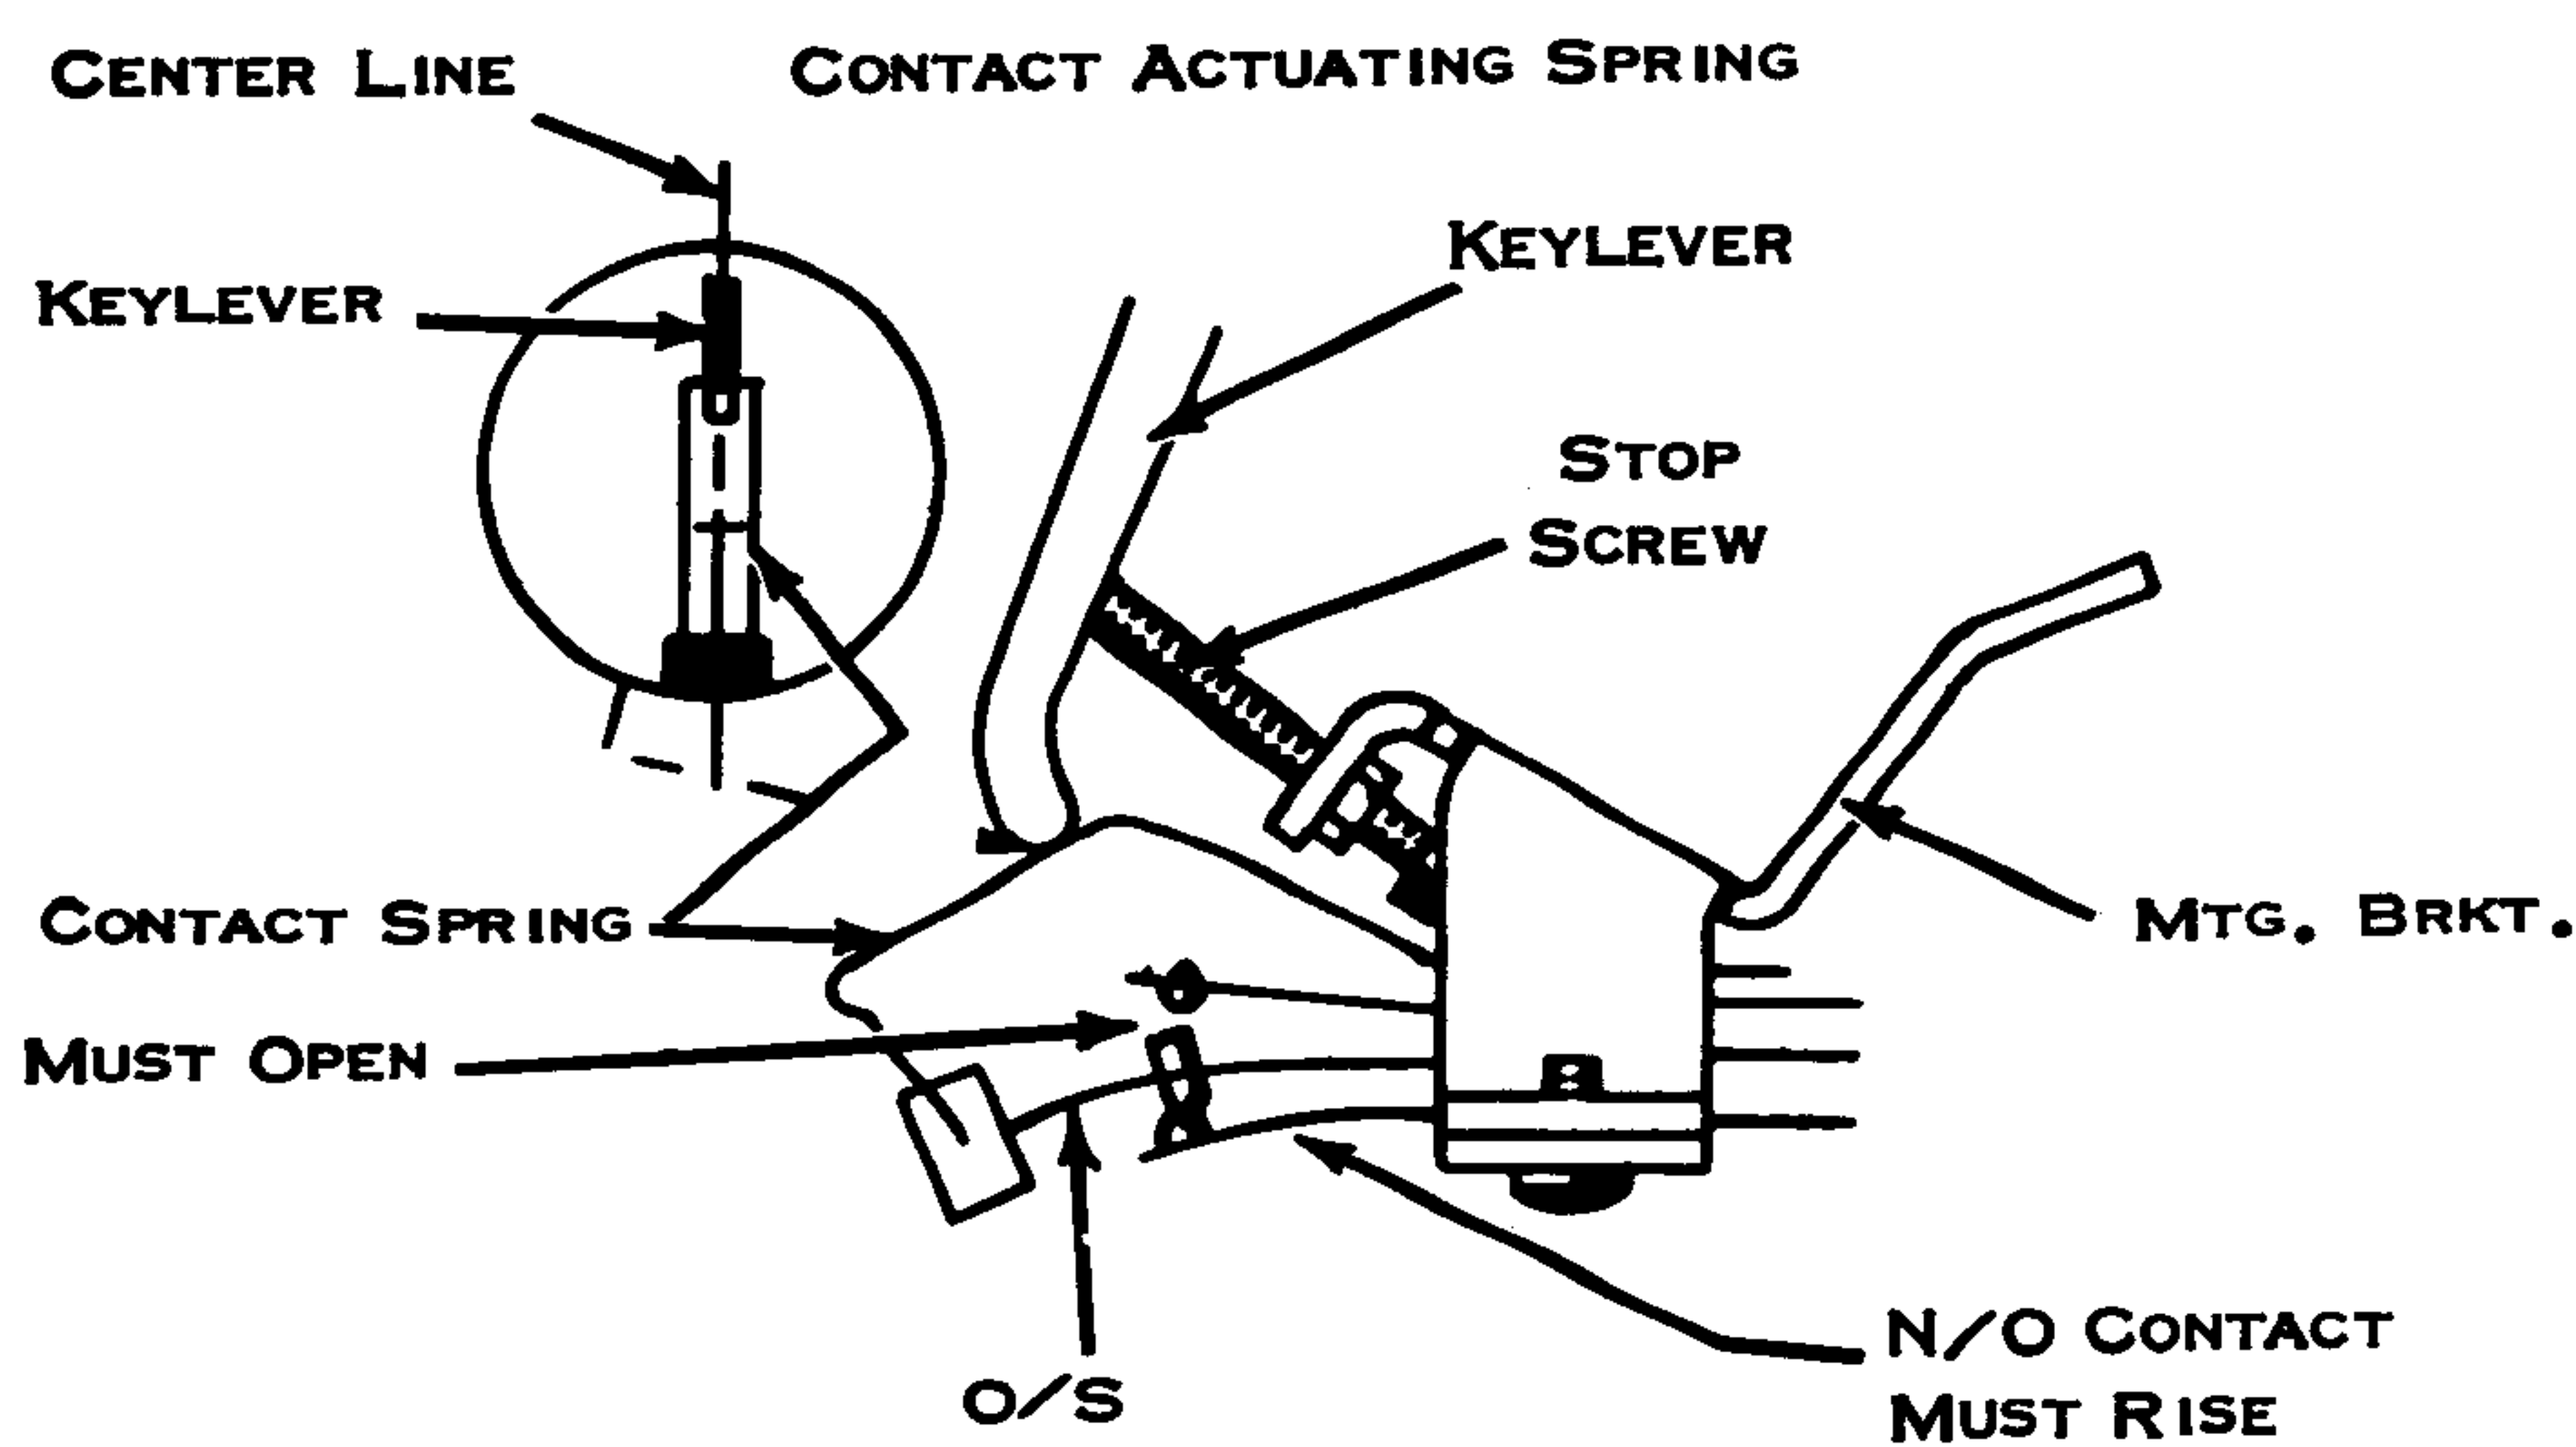

Figure 39. Keylever Contact Adjustment
3. Contact Assembly Position, unit installed (Fig. 39) -